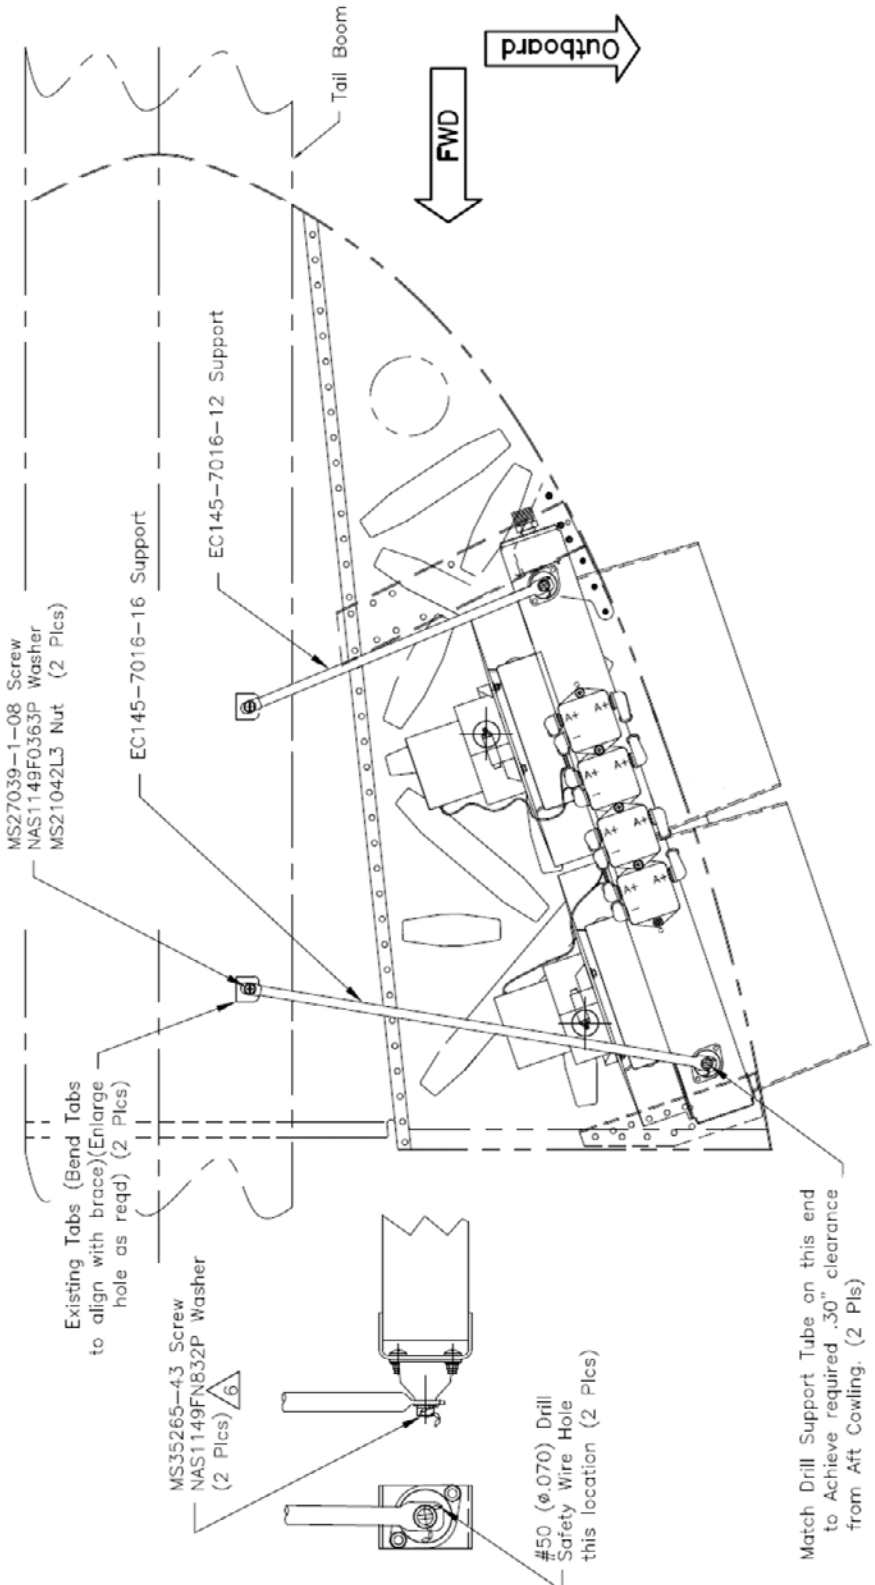

Figure 4: Support Tube Installation
7. Reinstall EC145-7016-12 and EC145-7016-16 Support Tubes per Figure 4 using 2x MS35265-43 Screws and 2x NAS1149FN832P washers for the outboard side of each tube, and 2x MS27039-1-08 screws, 2x NAS1149F0363P washers, and 2x MS21042L3 nuts for the inboard side. Safety wire per MIL-P-8564 paragraph 3.3.7 using MS20995 C32 safety wire.